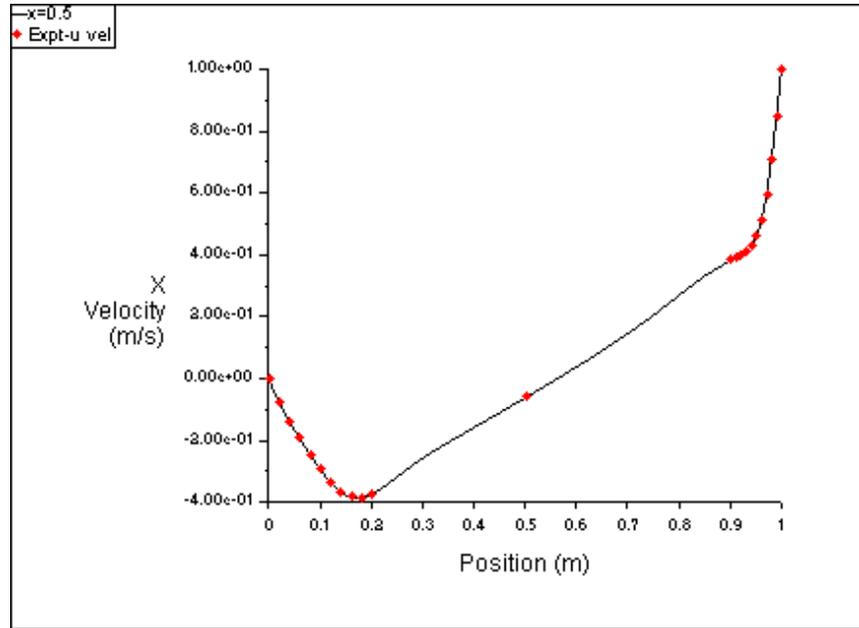

Figure 1.7: Calculated Vs. Experimental Data for X-velocity with Higher Order Solution
13. Compare the new results again by repeating steps 5.7 and 5.8 (Figures 1.7 and 1.8).